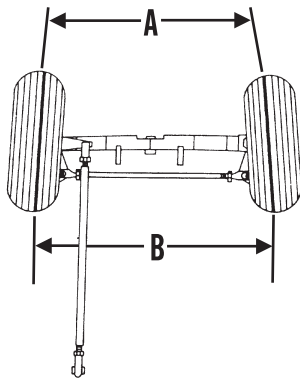

Fig. HN1-2—Measure distance “A” and “B” at front and rear of front wheels to determine front wheel toe-in.
distance (A—Fig. HN1-2) between the front of the front wheels at hub height and the distance (B) between the rear of the front wheels. The front distance (A) should be smaller than the rear distance (B).